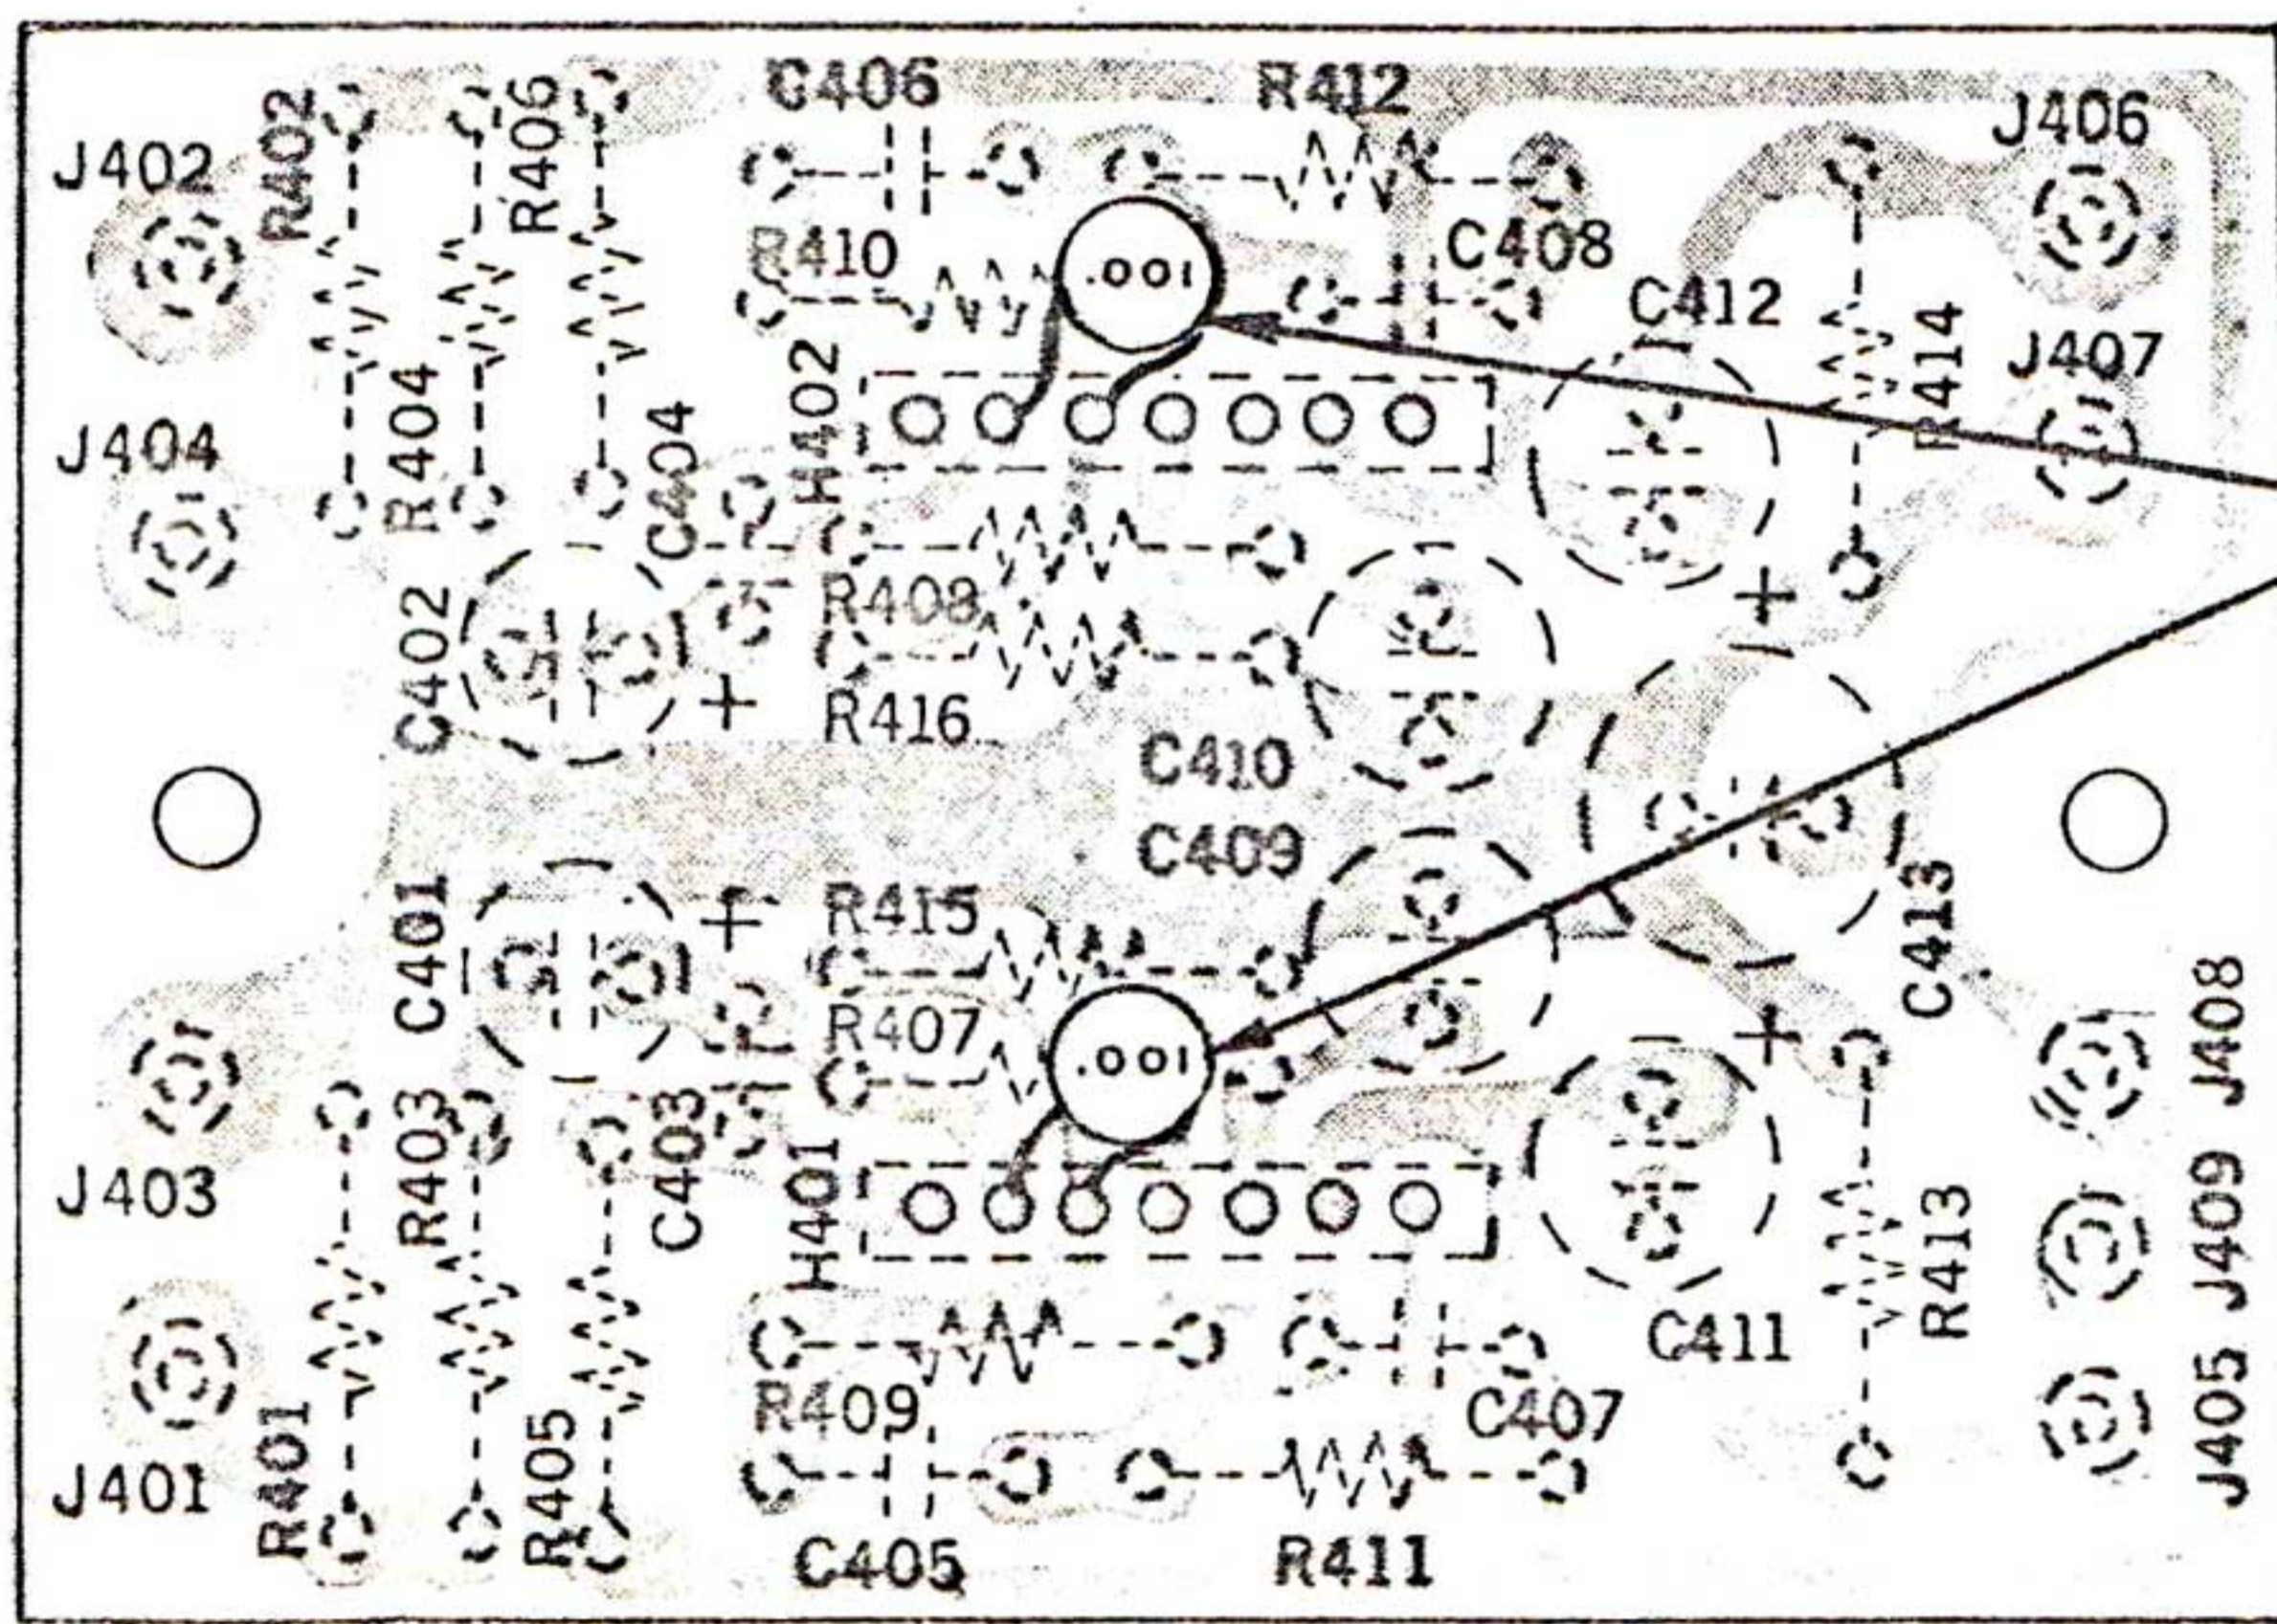

Fig. 1A
1. Connect a 1000pF ceramic disc capacitor between pins number 2 and 3 of IC H401 and IC H402 on the foil side of the Phone Preamp Board, (See figures 1A and 1B).